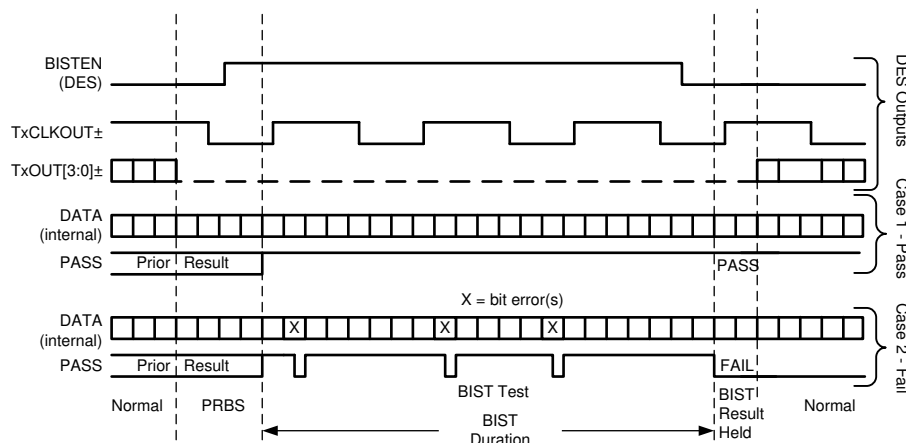

Figure 7-28. BIST Waveforms with OLDI Deserializer
Step 4: The link returns to normal operation after the deserializer BISTEN pin is low. Figure 7-28 shows the waveform diagram of a typical BIST test for two cases. Case 1 is error free, and Case 2 shows one with multiple errors. In most cases it is difficult to generate errors due to the robustness of the link (differential data transmission etc.), thus they can be introduced by greatly extending the cable length, faulting the interconnect medium, or reducing signal condition enhancements (Rx Equalization).